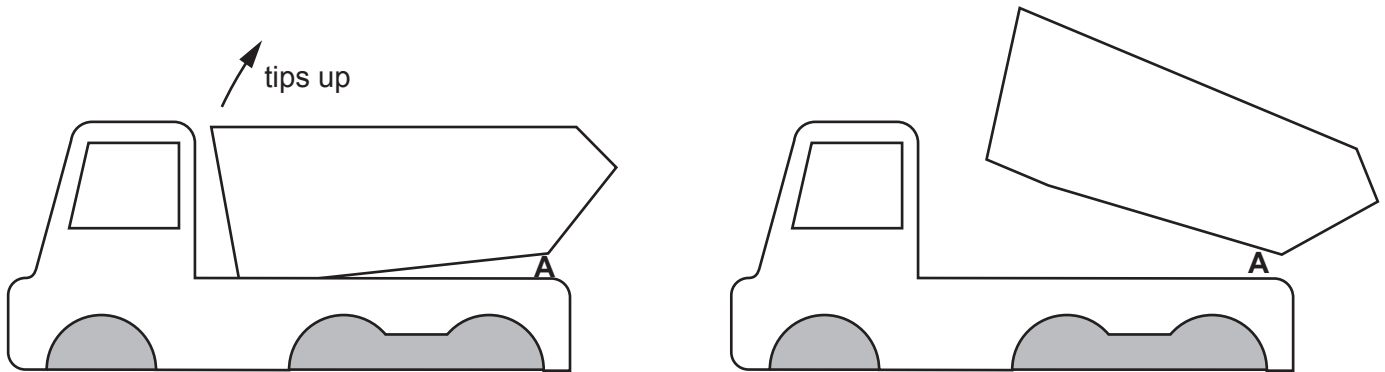

Fig. 13.4
- (d) Fig. 13.4 shows the tipper that will be attached to the base. The tipper will pivot at point A as shown.